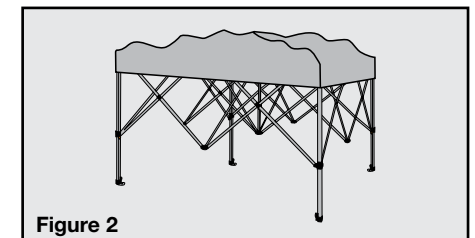

Figure 2
1. When the gazebo is nearly fully expanded remove the gazebo canopy from the carry bag and place it over the roof frame of the gazebo as indicated in Figure 2.